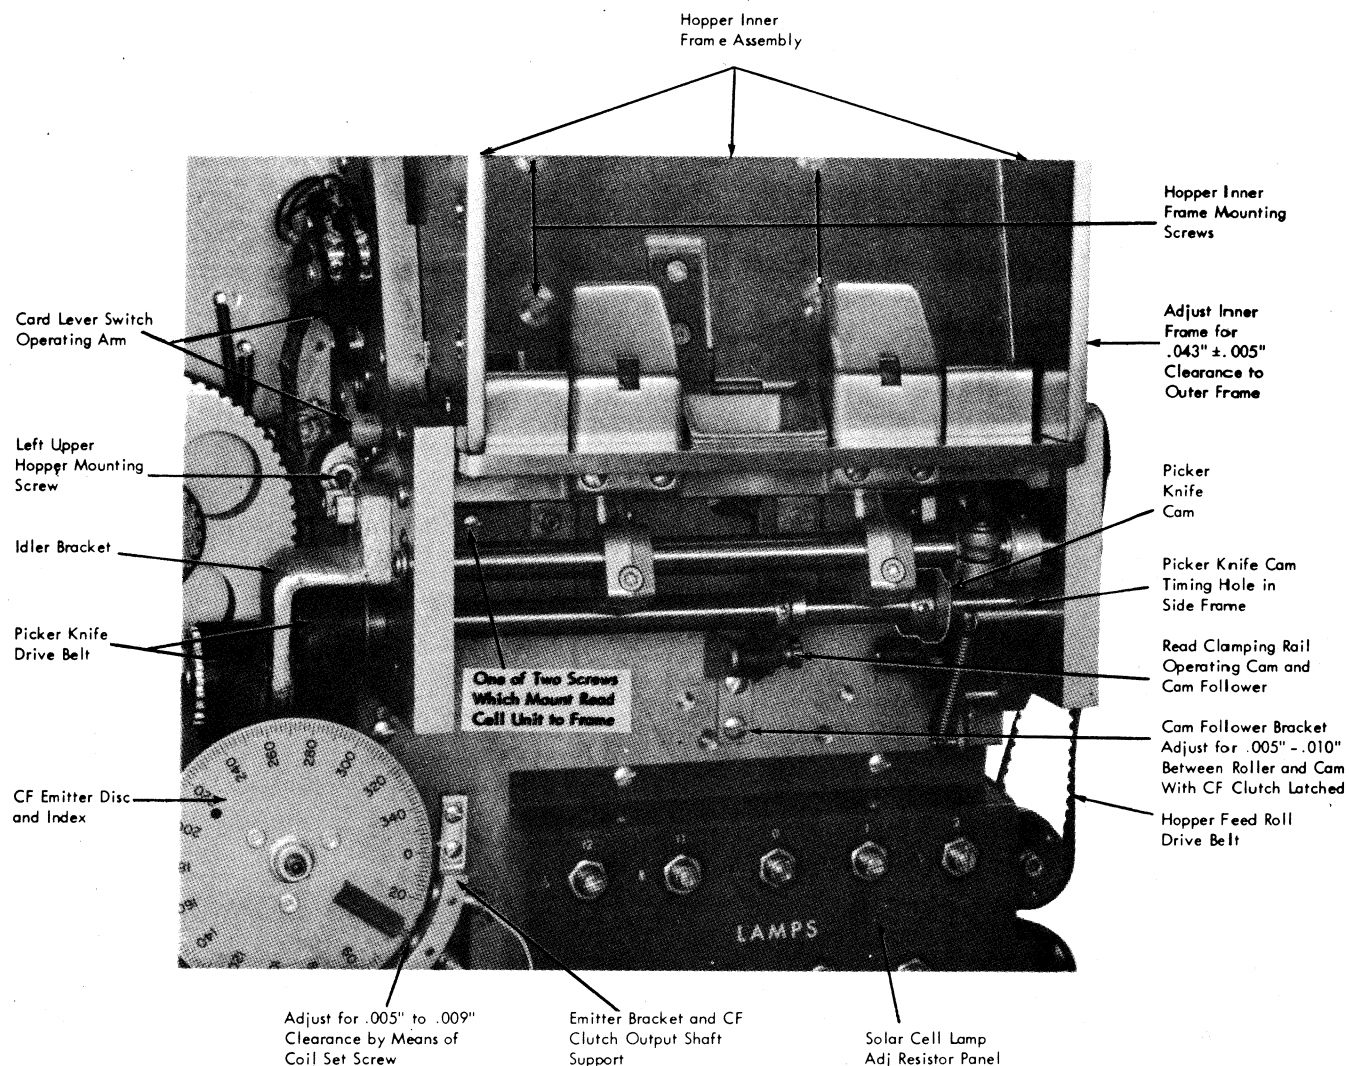

Figure 4-6. Hopper and Pickerknife Camshaft
2. Step 2 is for machines with belt driven pickerknives (see note following Drive Mechanism and Rear Casting Assembly). Remove pickerknife idler bracket from left hopper side frame. (See Figure 4-6.)
1. Latch clutch. Loosen CF clutch index disk on front of CF clutch output shaft. Rotate pickerknife camshaft until pickerknife cam timing hole is aligned to timing hole in hopper side casting (Figure 4-6). Place timing pin through aligned holes.
- a.  $.043" \pm .005"$  lateral spacing between hopper inner frame and outer frame. See Figure 4-6.
3. With card feed clutch latched, adjust clamping rail cam follower bracket for .005" to .010" clearance between cam follower and cam (Figure 4-6).